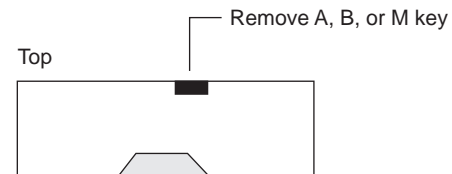

Figure D-4 Single Mode Keyed Transceiver (front view)
- 2 Remove the A, B, or M key from the keyed transceiver. See Figure D-4. You may have to remove the front panel on the module.